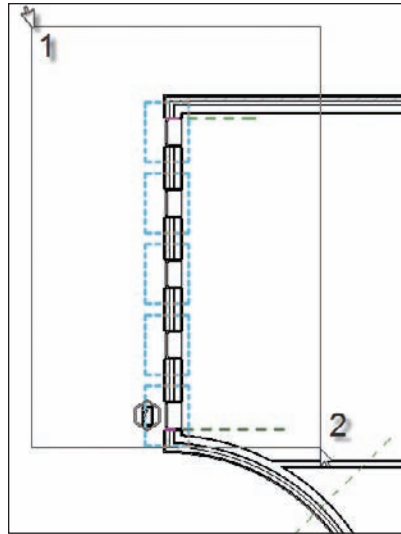

FIGURE 4.24 Selecting the items to be mirrored. Make sure you do not select the wall that the windows reside in.
2. Select the windows starting from the upper-left corner to the lower-right corner, as shown in Figure 4.24.